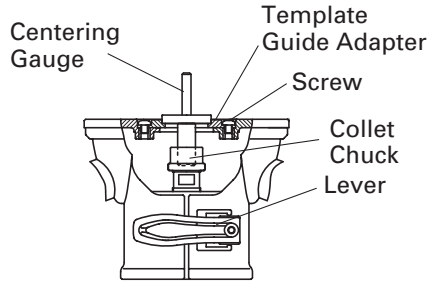

Fig. 9
(2) Insert the centering gauge through the hole in the template guide adapter and into the collet chuck. (Fig. 9)
(3) Tighten the collet chuck by hand.
(4) Tighten the lever. (This aligns the center of the template guide adapter.)
(5) Tighten the template guide adapter screws, and pull out the centering gauge.